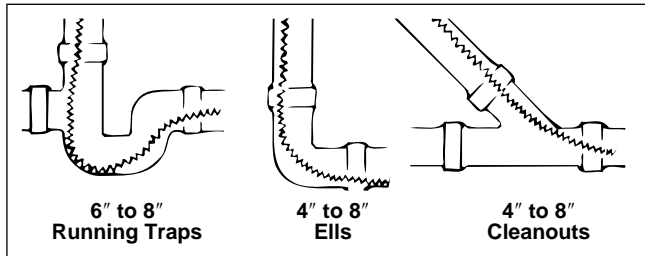

Figure 3 – Heavy-duty Cable Application
**Heavy Duty Cable** – Where conditions allow, heavy-duty 1 1/4" cable should be used for faster results and longer cable life. The heavy-duty cables work efficiently in 4" through 8" straight lines. (Figure 3)